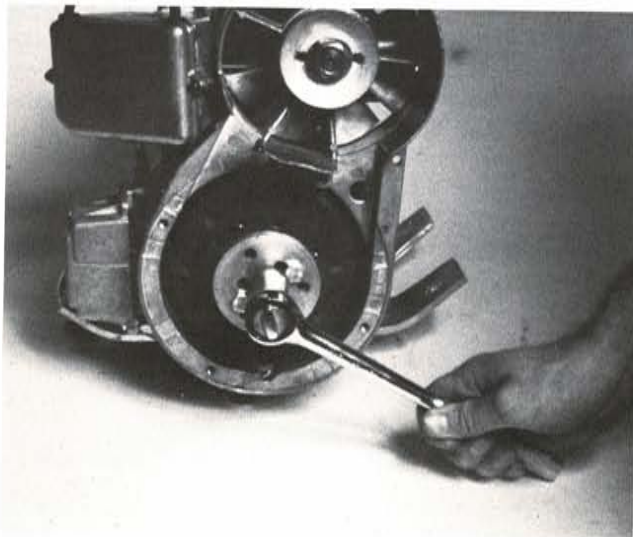

FIG. 14
13. Using a standard flywheel puller, remove flywheel. (Fig. 14)